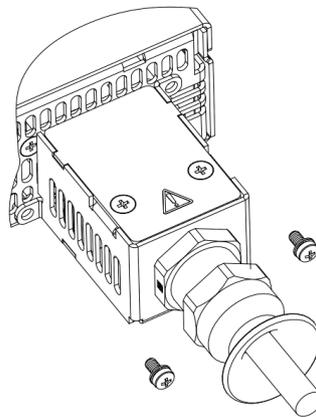

Figure 4-20: Strain Relief Assembled to Power Supply Rear Panel
9. Fix the strain relief release assembly to the rear panel with two M3x8 Sems screws as shown in Figure 4-20. The Sems screws are supplied in the accessories kit. Tightening torque: 4.7-5.7 Lbf-inch. (0.53-0.64Nm).